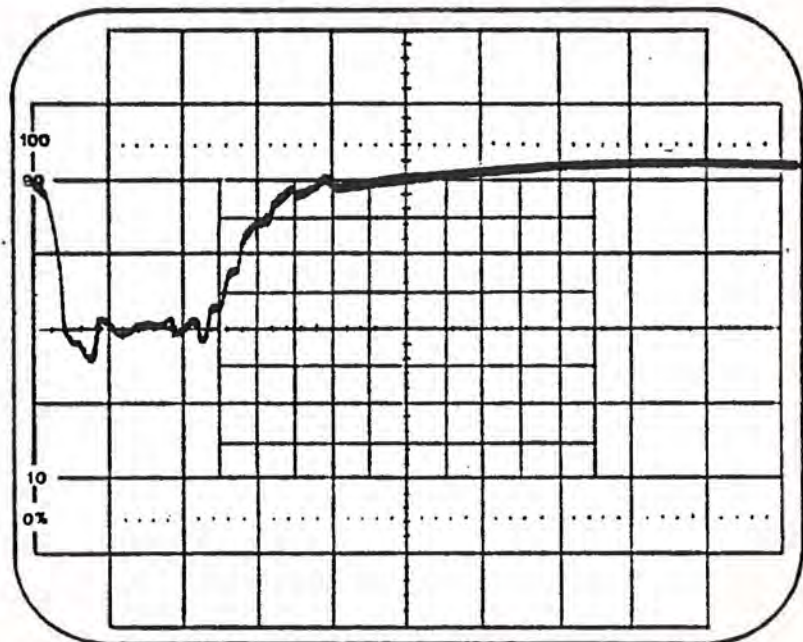

Figure 3-2
- 4) Unselected board will have single negative going pulse (Figure 3-2).